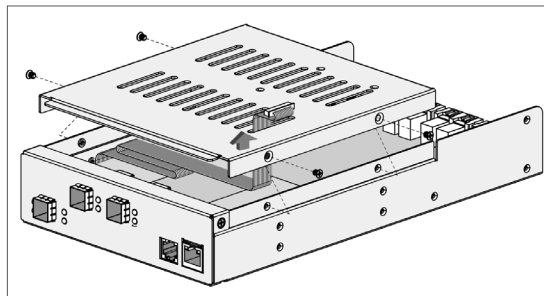

Figure B-7, Let the cable out of the controller caddy and secure the cover.
3. Secure the cover on the controller caddy and, meanwhile, let the cable out of the controller caddy cover, as shown in Figure B-7.